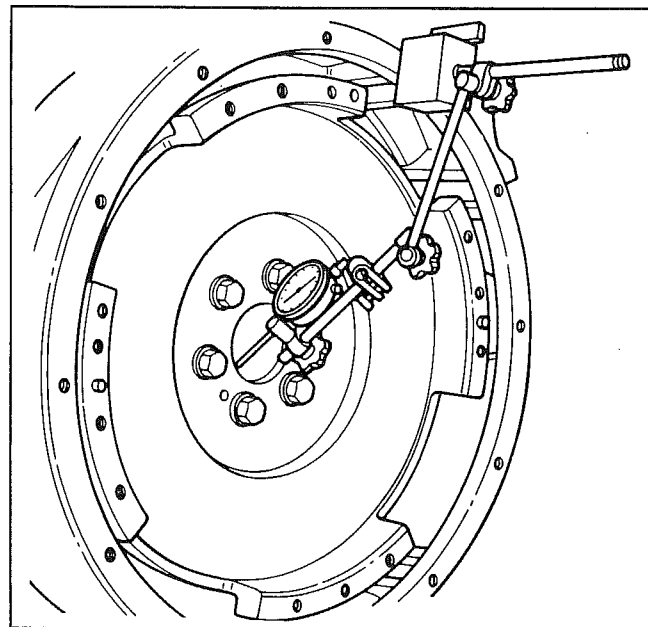

Figure 9-9. Measuring Pilot Bearing Bore Radial Runout
3. Measure the **radial runout** of the pilot bearing bore with a dial indicator (Fig. 9-9). Secure the dial indicator to the flywheel housing and position the pointer of the dial indicator to contact the pilot bearing bore surface. Turn the engine over by hand while observing the dial indicator. A typical runout limit is: